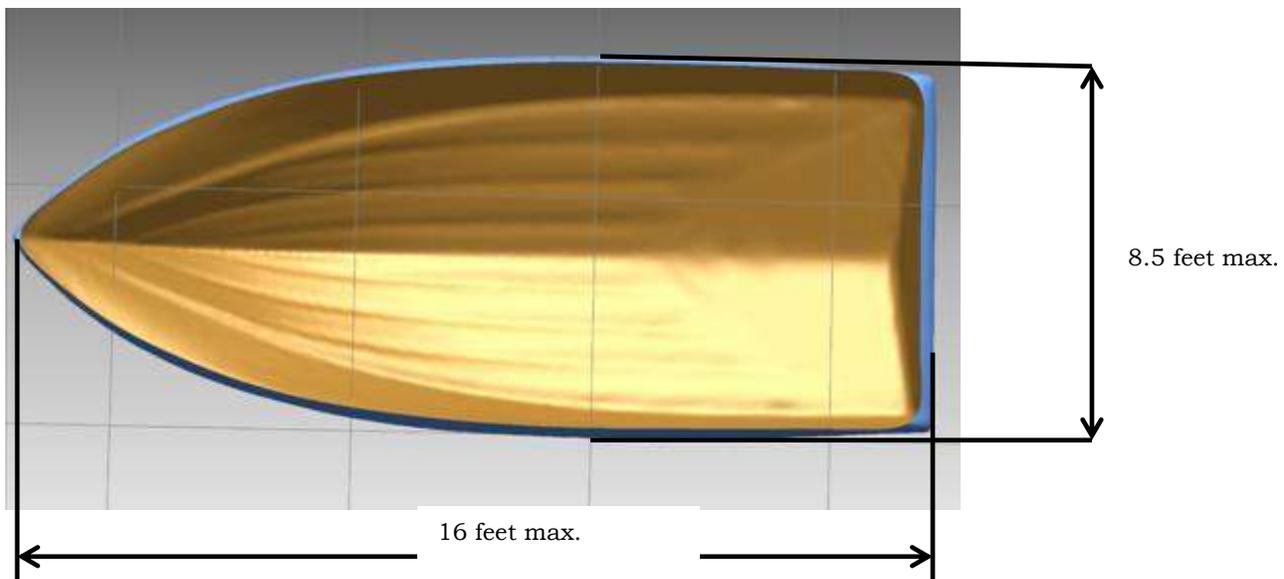

Fig. 1
6. Boat size cannot exceed sixteen (16) feet in length and eight ½ (8.5) feet in beam. Outside measurements apply. Please refer to Fig. 1 for illustration of relevant dimension limits